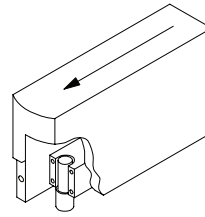

Figure 2
5. Maneuver door into position, about 90° to frame. Position door so door pivot leaf mates with pivot pin as shown in Figure 2. Re-attach pivot clamp as shown in Figure 3. Do not tighten clamp screws completely. Engage pivot leaves at top of door. Now tighten clamp screws securely.